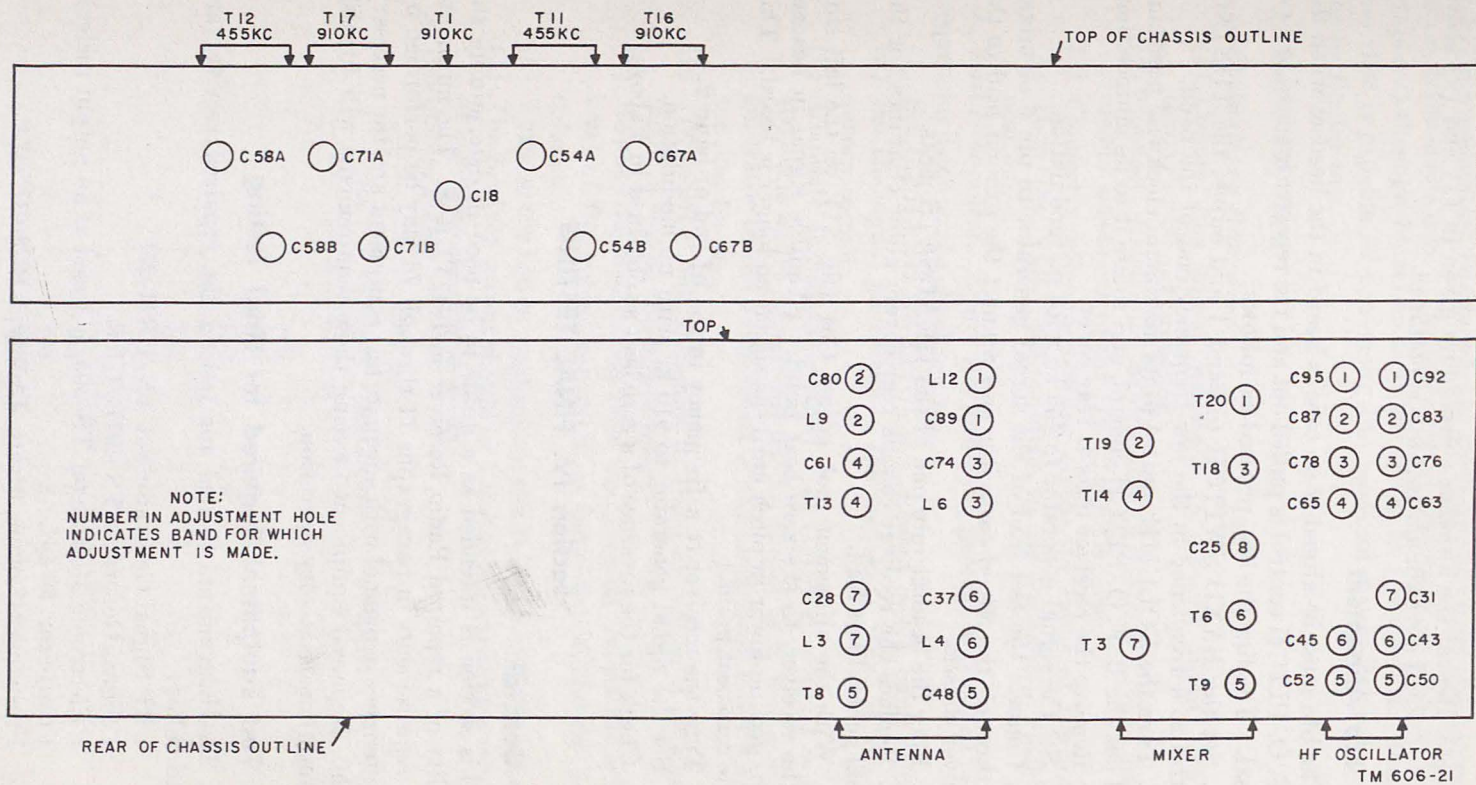

Figure 23. Location of alignment adjustment points.
f. With the alinement tool, adjust C71A and C71B (fig. 23) for a maximum reading on the output meter.
h. With the alinement tool, adjust C18 (fig. 23) for a maximum reading on the output meter.
j. With the alinement tool, adjust C67A and C67B (fig. 23) for a maximum reading on the output meter.
- (1) Set the signal generator to .205 mc with 30 percent modulation at 400 cycles and connect it as instructed in *a*(4) above.
- (2) Set the BAND SWITCH to band 1 and tune the receiver to .205 mc.
- (3) Adjust hf oscillator trimmer C92 (fig. 23) with the alinement tool for a maximum reading on the output meter.
- (4) Adjust mixer trimmer C91 in transformer T20 (fig. 23) with the alinement tool for maximum reading on the output meter.
- (5) Adjust antenna trimmer C89 (fig. 23) with the alinement tool for a maximum reading on the output meter.
- (6) Change the signal generator frequency to .100 mc.
- (7) Adjust the TUNING control to tune the receiver to .100 mc.
- (8) Adjust C95 (fig. 23) with the alinement tool for a maximum reading on the output meter.
- (9) Adjust antenna coil L12 with the tuning wrench on the alinement tool for a maximum reading on the output meter.
- (10) Repeat the procedure in (1) through (9) above until a maximum reading is obtained.
- (1) To aline the hf end of each band, set the signal generator to the higher of the two frequencies listed for that band in the receiver and signal generator frequency column of the chart in (2) below. Tune the receiver to this frequency. Adjust the hf oscillator trimmer capacitor listed in the hf oscillator adjustment column for that frequency. Then adjust the mixer and antenna circuit components listed for each frequency in the mixer adjustment and antenna adjustment columns, respectively. In each case, the adjustment is for a maximum reading on the output meter. Figure 23 indicates the location of all these adjustments.
- (2) To aline the low-frequency end of the band, follow the same procedure as described in (1) above but use the lower of the two frequencies listed for each band in the chart below and make the adjustments listed for each frequency. The mixer is alined only at the hf end of each band. There is no low-frequency mixer adjustment. The hf oscillator and the mixer cannot be alined at the low-frequency end of band 7. The only adjustment necessary for band 8 is the mixer adjustment at the hf end of the band.